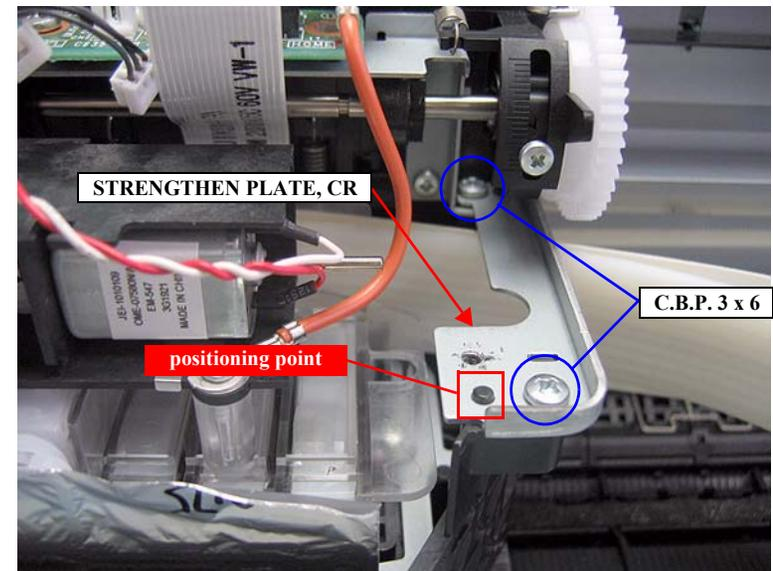

Figure 4-86. Removing the STRENGTHEN PLATE, CR
15. Remove the two screws that secure the STRENGTHEN PLATE, CR and remove it. *See Figure 4-86.*
Insert the positioning hole of the STRENGTHEN PLATE, CR over the guide pin of the CARRIAGE, ASSY. to secure the STRENGTHEN PLATE, CR. *See Figure 4-86.*